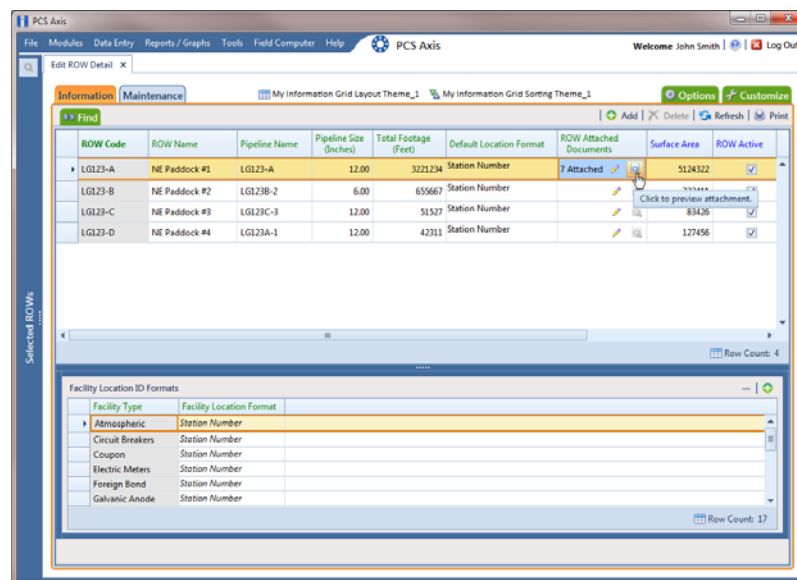

Figure 3-18. Edit ROW Detail
- 2 Click **Data Entry** > **Edit ROW Detail** to open the *Edit ROW Detail* window (Figure 3-18).